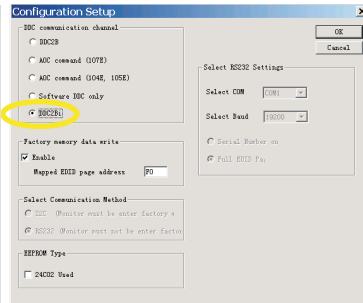

Fig. 23
- Configuration should be as Fig. 23. And press OK.